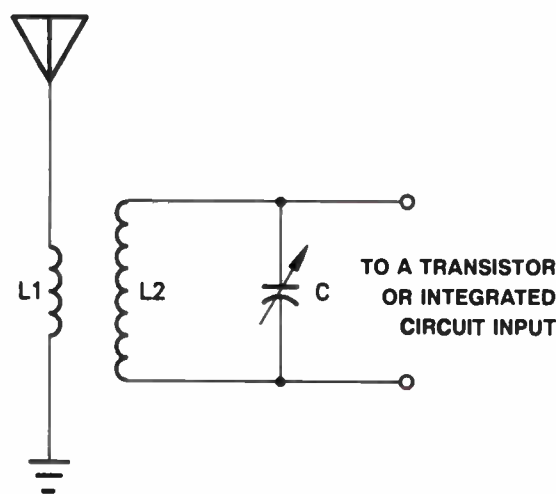

Figure 16. Input circuit of a radio receiver.
Figure 16 shows a typical circuit found in the input section of a radio receiver designed for use in the standard AM broadcast band. Notice that two coils are placed close together so that they are inductively coupled. They actually form a transformer. The triangular symbol connected to the primary winding is the symbol used for an antenna.
- 18 Is the resonant circuit made up of L2 and C in Fig.16 a series resonant circuit or a parallel resonant circuit?